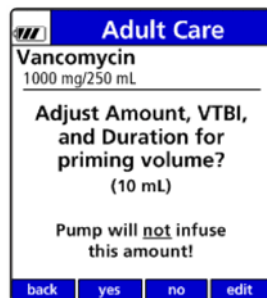

Figure 106. Priming Volume Adjustment Screen.
- Press the **edit** soft key to change amount (mL). See Figure 106.